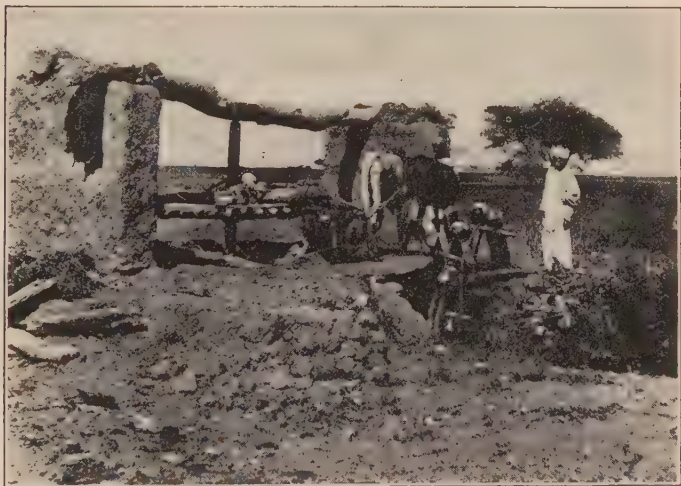
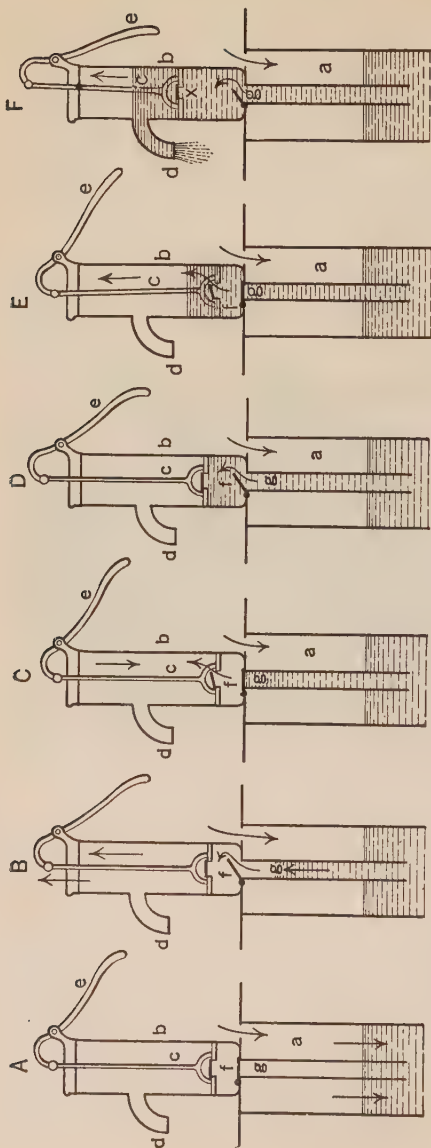

FIGURE 31. — LIFTING WATER IN EGYPT.
FIGURE 32. — STEPS IN THE ACTION OF A LIFT PUMP.
55. Measuring Atmospheric Pressure. — In 1640 the Duke of Tuscany dug a deep well and fitted it with a pump, but he could not make the water come up the pump barrel (Fig. 32) more than 34 feet, though he knew that he had a vacuum in the barrel of his pump and that Nature always tries to fill a vacuum. Why would
our environment help us. In Egypt the treadmill and well sweep are still in use (Fig. 31). Where wells are in common use, as in the country, pumps are a necessity. Water seldom comes from a pump upon the first stroke of the handle. This is because there is no water in the pump barrel. A careful study of the accompanying diagrams (Fig. 32) will give the information needed to understand how a pump works.
Study the cistern pump in your kitchen (if you have one) or the pump in your yard and compare it with the one in Figure 32. If you have a chain pump how does it differ from this? Is the principle the same? Explain. (Key Picture 4.)
Explain how atmospheric pressure is used in this pump (see Fig. 32). How and where is compressed air used here? When and why do the two valves work?